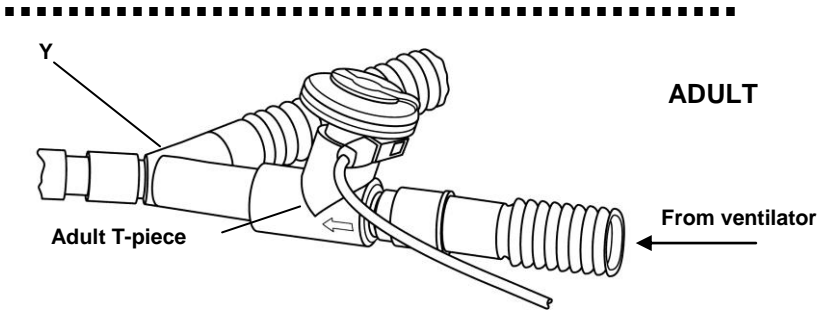

Figure 6: Connecting to an adult breathing circuit
1. For **adult breathing circuits**, connect the nebulizer unit with adult T-piece into the inspiratory limb of the breathing circuit before the patient Y (Figure 6).
- Always maintain the nebulizer in a vertical orientation (with the filler cap uppermost) while in the patient circuit (Figures 6, 7, 8 and 9). This orientation prevents condensate from blocking the nebulizer and ensures proper nebulization. Always visually inspect the nebulizer prior to placing in the ventilator circuit to assure that no secretions are blocking the OnQ™ Aerosol Generator.